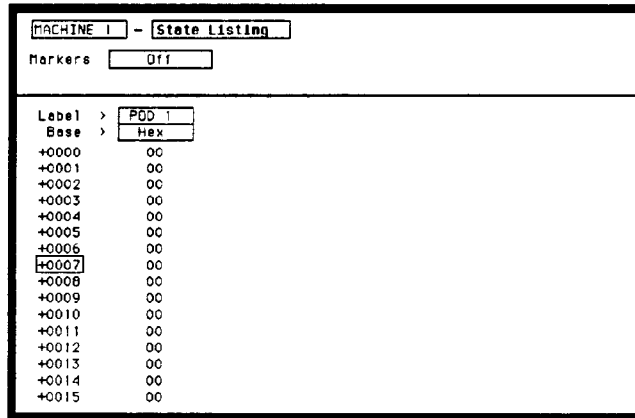

Figure 3-15. State Listing for Data Test 2
- Press **RUN**. The **State Listing** is displayed and lists all 0s for the channels under test as in figure 3-15.